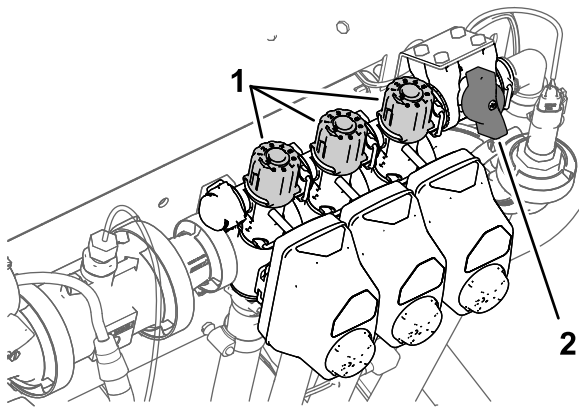

Figure 34
2. Turn off the left-section switch and adjust the section-bypass knob (Figure 34) until the rate displayed is at the previous level according to the table.
4. Adjust the right section-bypass knob (Figure 34) until the rate displayed is at the previous level according to the table.
6. Adjust the center section-bypass knob (Figure 34) until the rate displayed is at the previous level according to the table.